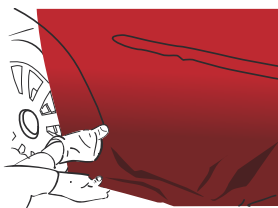

Figure 09
- ▶ Apply the peak with your finger or a felt-covered plastic squeegee. (FIG. 09)